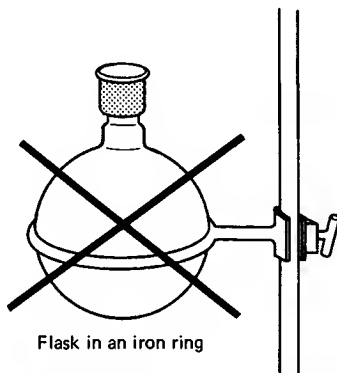

Fig. 60 Flask in the iron ring.
4. *Never* place the flask in the ring without a screen (Fig. 60). The iron ring heats up faster than the flask and the flask cracks in the nicest line around it you’ve ever seen. The bottom falls off and the material is all over your shoes.